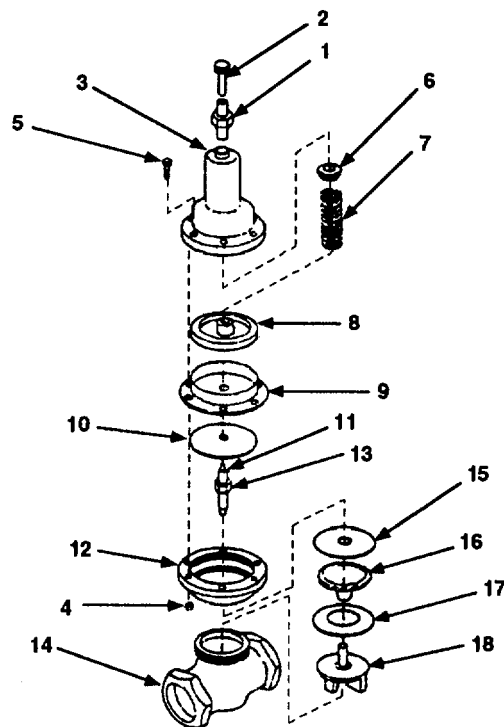

Figure 5-6. Pressure Regulating Valve Maintenance.
- Loosen jam nut (Figure 5-6, 1).
- Remove setscrew (2) and jam nut (1) from pressure valve cap (3).
- Remove six nuts (4) and bolts (5).